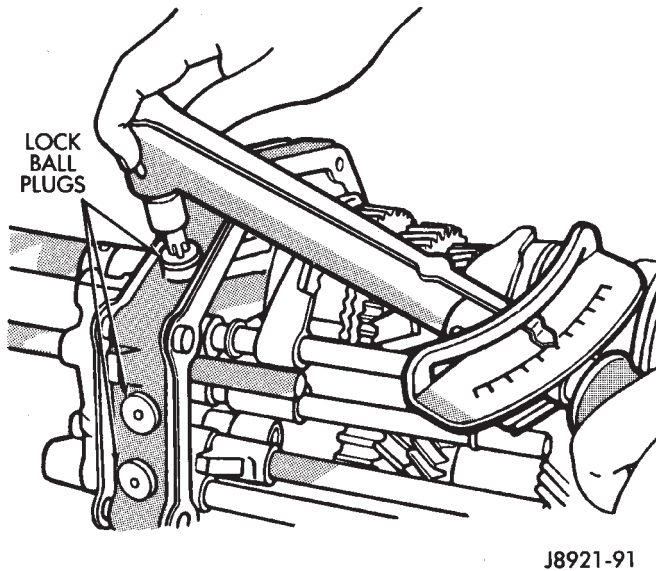

Fig. 91 Installing Lock Ball Plugs
(21) Apply sealer to threads of lock ball plugs.
(22) Install lock balls and springs in intermediate plate. **Short spring goes in top hole of intermediate plate.**
(23) Install lock ball and spring plugs (Fig. 91). Tighten plugs to 19 N·m (14 ft. lbs.) torque.